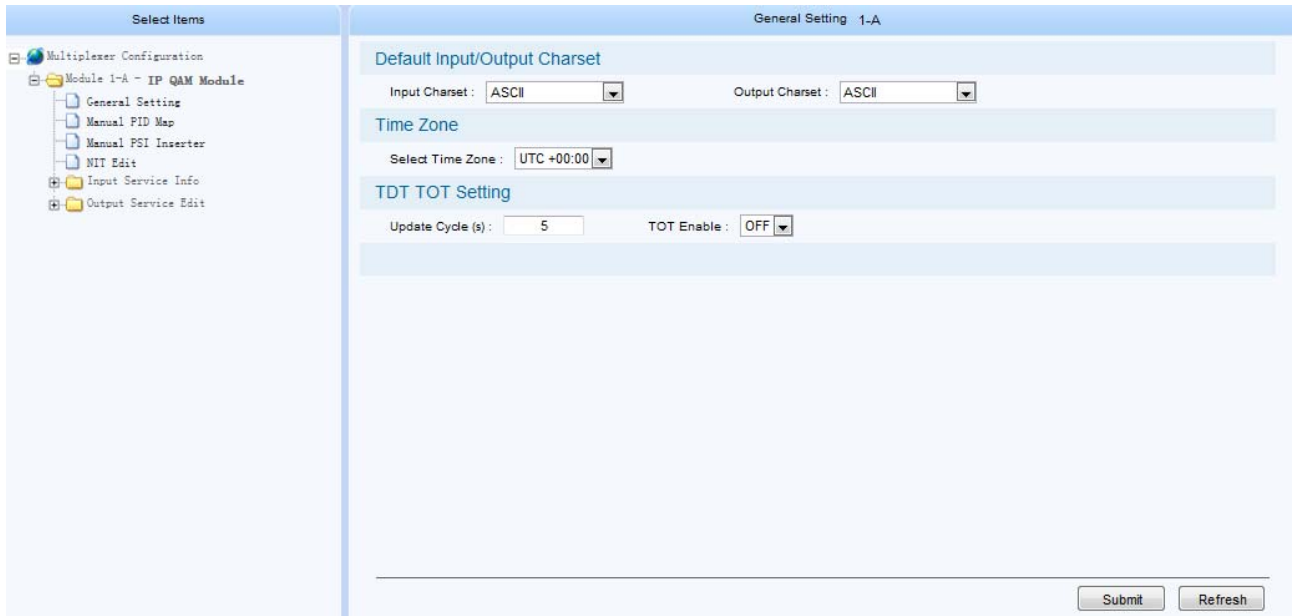

Fig.21 Multiplexing setting of programs
4. If the channel parameters are displayed as grey (as shown as the channel 2,3 and 4 in figure 21), it means your device is not authorized the corresponding functions.
Click “MUX Setting” hyperlink in the navigation menu of the home page to Multiplexing setting page of GQ-3670C, as shown in figure 21.